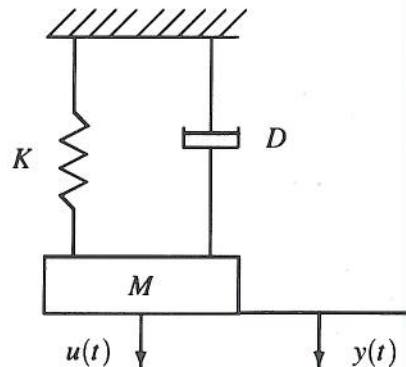

Figure 1.1
- (a) This is a mechanical modeling question and is a somewhat typical study group question. Figure 1.1 has come up in questions before.
1. a) Figure 1.1 shows a mass-spring system where K , D and M have the standard interpretation. The signal $u(t)$ represents an applied force and $y(t)$ the displacement from the rest position.